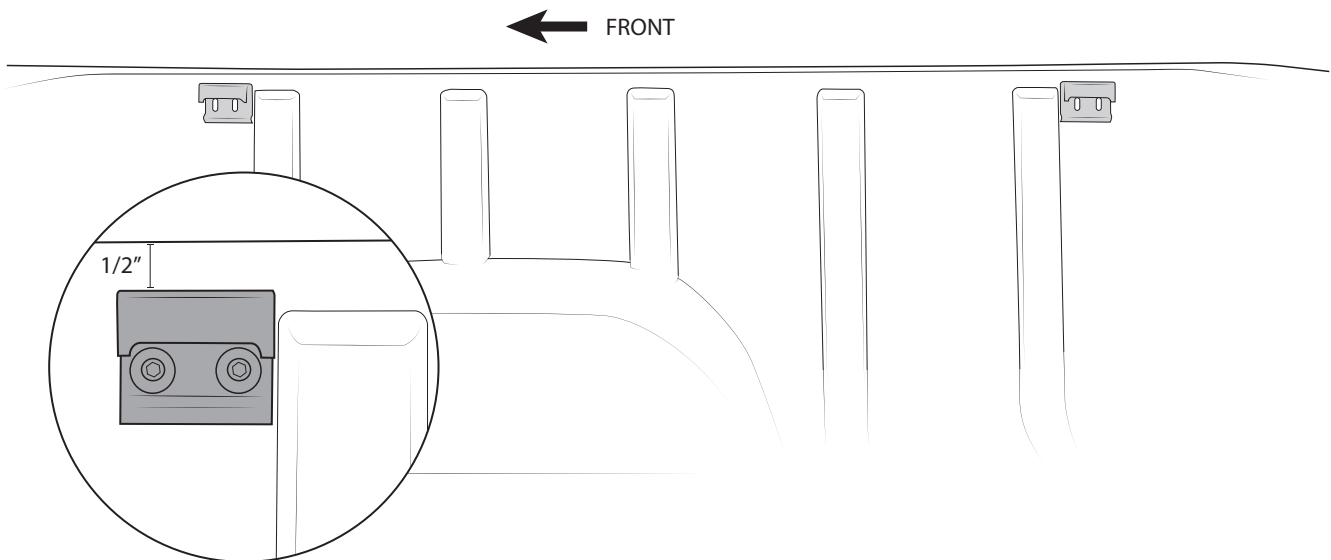

Figure 4
1. Position brackets as shown (fig. 4) measuring 1/2" from top of bed.